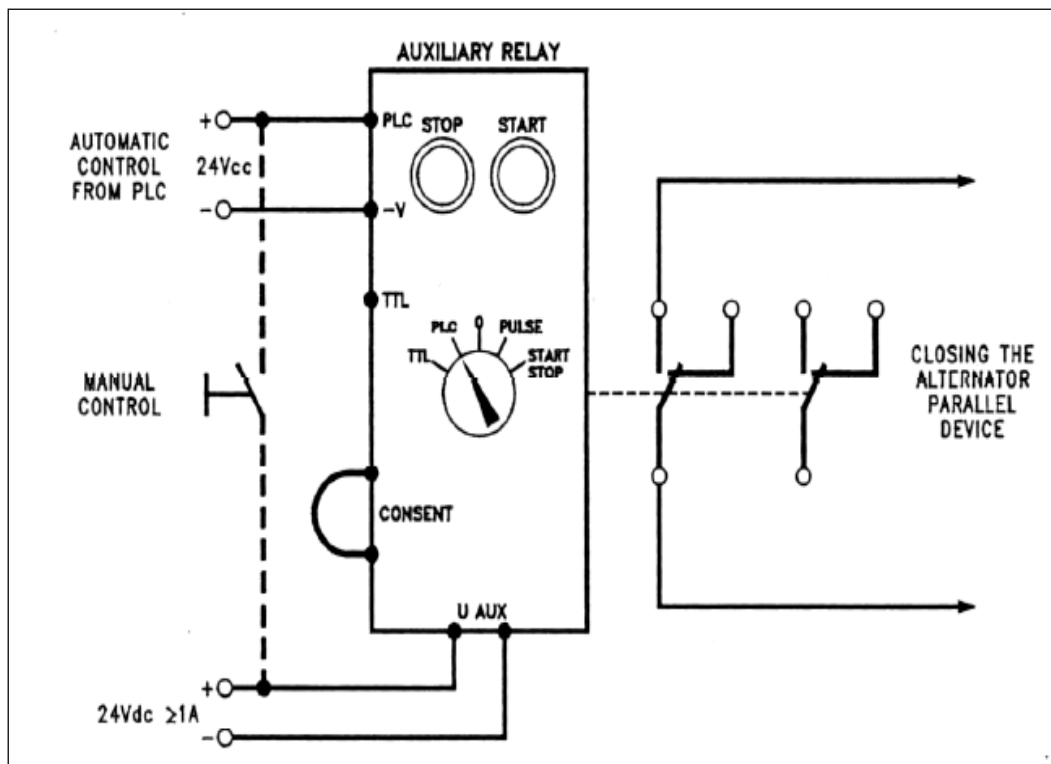
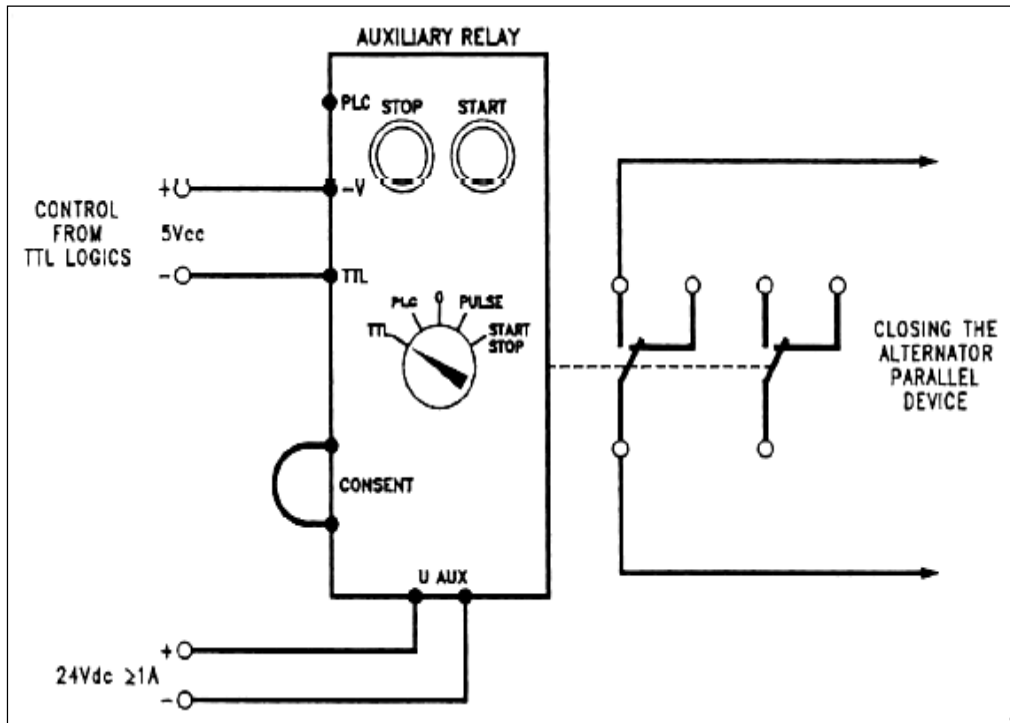

Figure 2.10 Connection diagram to use an a relay as interface for PLC.
Figure 2.11 Connection diagram to use a relay with TTL logics.
1. Follow the electrical diagram of figure 2.10 or figure 2.11